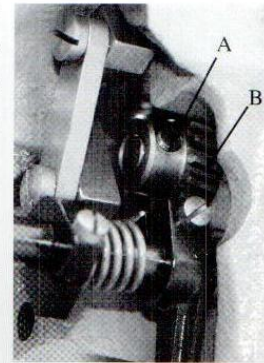

Fig.4
At this point, the slot in needle vibrating cam (B) should be on right side of cam center, and in a vertical position. To make this adjustment, loosen accessible set screw (A, Fig. 4) in gear (B), disengage stop motion lever, and rotate pulley until second set screw in gear (B) is accessible. Loosen this screw and return to stop position.